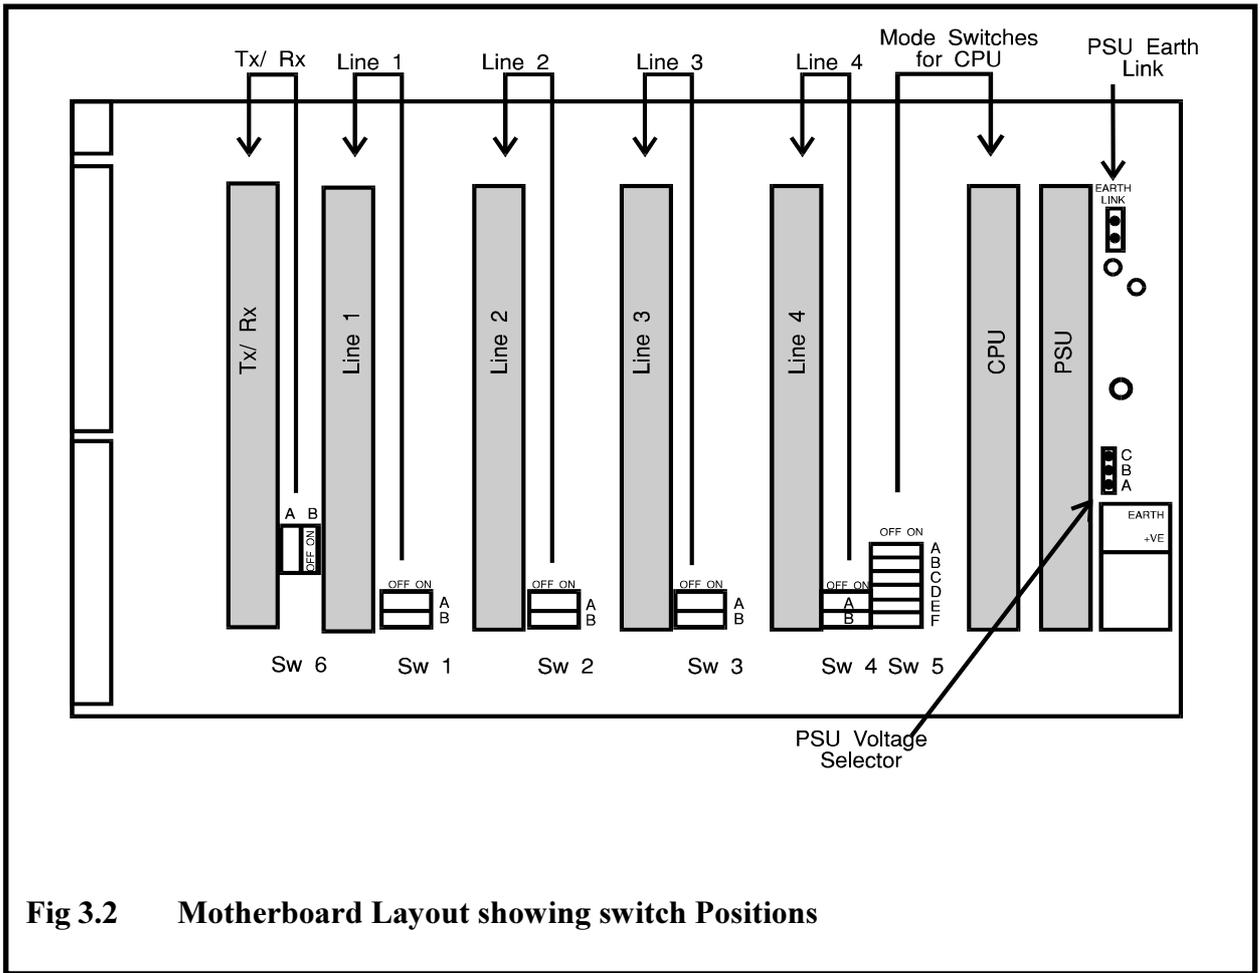

Fig 3.2 Motherboard Layout showing switch Positions
The remote equipment power supply circuit comprises an isolated DC - DC convertor. Earth reference is provided from a terminal for connection to an external telecomms earth. If the incoming supply is earthed, this may be used in preference to an external earth. When used in Signalling Relay Rooms, the case **must** be isolated from the internal supplies by removing the link on the motherboard, see Fig 3.2. **The case must then be bonded to external metal-work for safety.**
reference is provided from a terminal for connection to an external telecomms earth. If the incoming supply is earthed, this may be used in preference to an external earth. If the signal box equipment is installed where the signalman will operate it, **the case must be earthed for safety**. If it is installed in a Signalling Relay Room, the case **must** be isolated from the internal supplies by removing the link on the motherboard, see Fig 3.2. **The case must then be bonded to external metalwork for safety.**
When operating to a concentrator it should be noted that the signal box set-up switch, SW5 D shown in Fig 3.2, should be set up so that the front panel CALL button does not have to be operated to set-up a call to the remote end.
c) Earth point - See 2.3.5. **Either:** connect the case metalwork to a known safety earth, **or:** remove the PSU Earth Link on the motherboard (see Fig 3.2) and connect the case to bonded metalwork.
3.1.11 With the cardframe outside the case it is easier to see the individual programming switches. All of the switches are located on the motherboard and are labelled SW1 to SW6. The switch positions are identified in Fig 3.2.